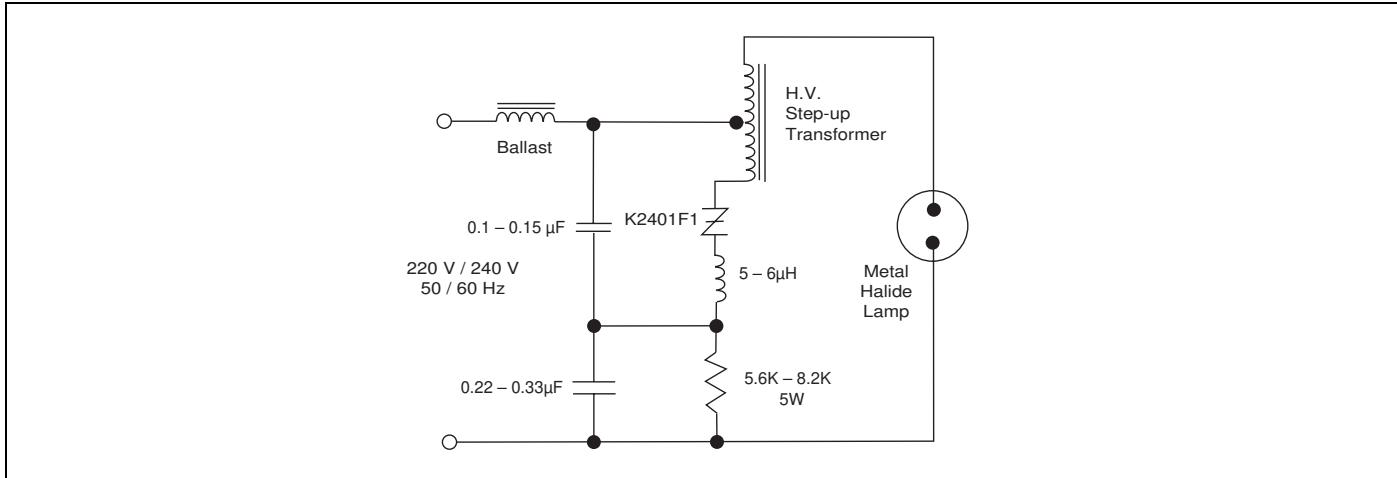

Figure E9.17 Typical Metal Halide Ignitor Circuit
(11) The K2401F1 sidac is designed to ensure good commutation at higher switching frequencies, as required in ignitor circuits for high intensity discharge (HID) lighting. A typical circuit for a metal halide lamp ignitor is shown in Figure E9.17. With proper component selection this circuit will produce three pulses for ignition of Osram lamp types such as HQI-T70W, HQI-T150W, and HQI-T250W which require a minimum of three pulses at 4 kV magnitude and $>1 \mu\text{s}$ duration each at a minimum repetition rate of 3.3 kHz.